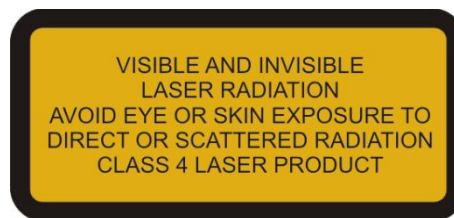

Figure 2-1: Visible and Invisible Classification label
- Visible and Invisible Classification label, see figure 2-1.